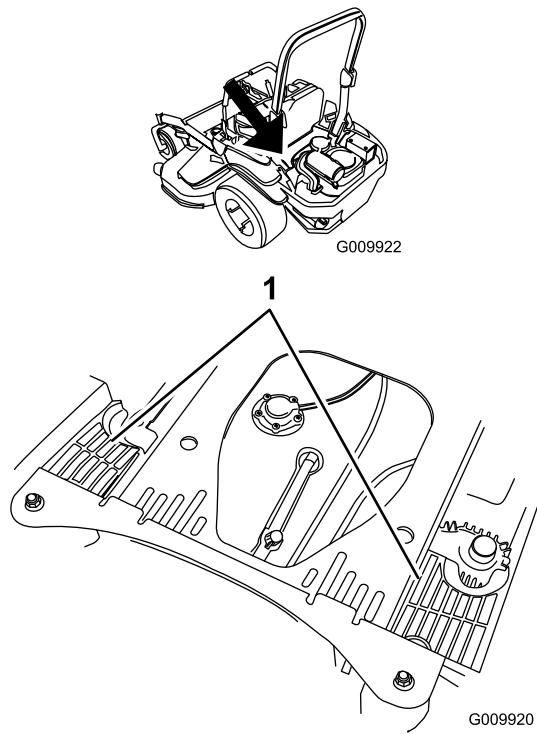

Figure 70
4. Clean the debris and grass from the hydraulic unit shrouds (Figure 70).